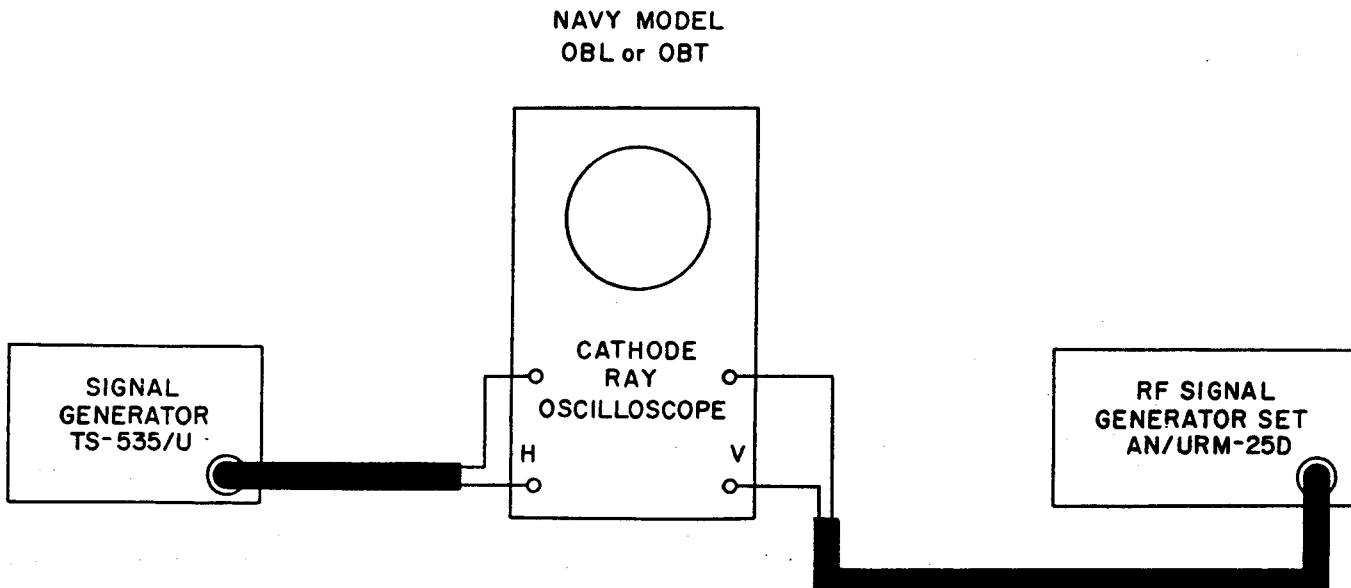

Figure 6-12. Method for Calibrating the RF Signal Generator Set AN/URM-25D at Frequencies Below 100 Kilocycles
(See figure 6-12).
(See figure 6-12 and Table 6-1).
(3) In using the heterodyne frequency meters referred to in paragraph 16 of this section, connect the output test cable (W104) to the heterodyne frequency meter. Plug a pair of earphones into the audio output of the frequency meter. Make the necessary capacitance and inductance adjustments while listening for a zero beat on the earphones.
(4) For calibrating frequency ranges below 100 kc, use the Signal Generator TS-535/U. Feed the output from the RF Signal Generator Set AN/URM-25D and Signal Generator TS-535/U to the horizontal and vertical inputs, respectively, of the oscilloscope, such as Oscilloscope OS-8/U, Navy Models OBL or OBT series (See figure 6-12). Adjust the frequency of the RF Signal Generator Set AN/URM-25D to the same frequency as the Signal Generator TS-535/U as indicated by a zero-shaped Lissajou pattern. Be sure to calibrate the Signal Generator TS-535/U according to its instruction book before using it as a standard in this procedure.
*c.* CALIBRATION PROCEDURE (See figure 6-12 and Table 6-1).
(1) To make the necessary RF trimmer and coil adjustments, it will be necessary to remove the top shield plate from the carrier oscillator compartment side of the casting which provides access to the trimmer condenser. It is also necessary to remove the screw plug from the casting to provide access to the oscillator coil. Identification of the appropriate coil and condenser is not necessary, since the correct components are automatically aligned with the access holes for each frequency band.
(2) The recalibration process consists of (a) adjusting the inductance for frequency calibration at the low-frequency end of the range, (b) adjusting the corresponding trimmer capacitor for a calibration point at the high end of the range, (c) rechecking the low end plus coil adjustment if necessary, (d) rechecking the high end if adjustment in step c is required, and (e) checking the center portion of range selected.
(3) After the adjustment has been made, replace the plate and plug and recheck calibrations. If the calibrations have been changed when this plate is replaced, readjust the applicable trimmer or core to compensate for this effect.
MODULATION CRYSTAL VOLTMETER	9. If the meter still does not respond to the % MOD-AUDIO OUT-XTAL CAL OUT control (R165), feed the output signal from the X-200K RF OUTPUT jack (J101) to a test oscilloscope. Set the carrier frequency at 100 kc. Place the MOD-XTAL & METER SELECTOR switch (S102) in the CW position. Advance the carrier control (R173) in a clockwise direction until a reading of "10" is obtained on the upper meter scale. With the external modulation applied as in par. 8 above, the modulated pattern should appear on the oscilloscope (figure 6-12). If it does, the trouble was in the modulation crystal voltmeter.